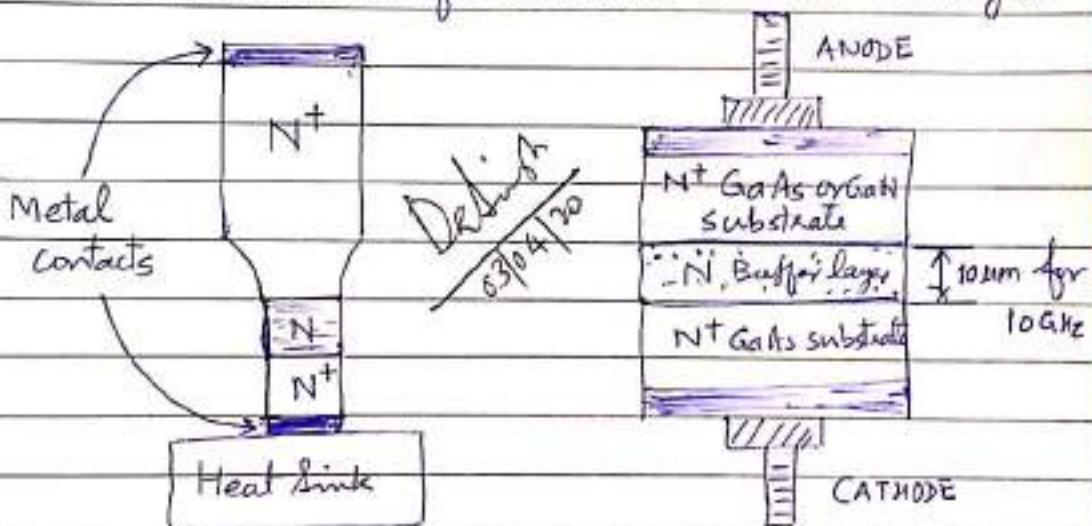
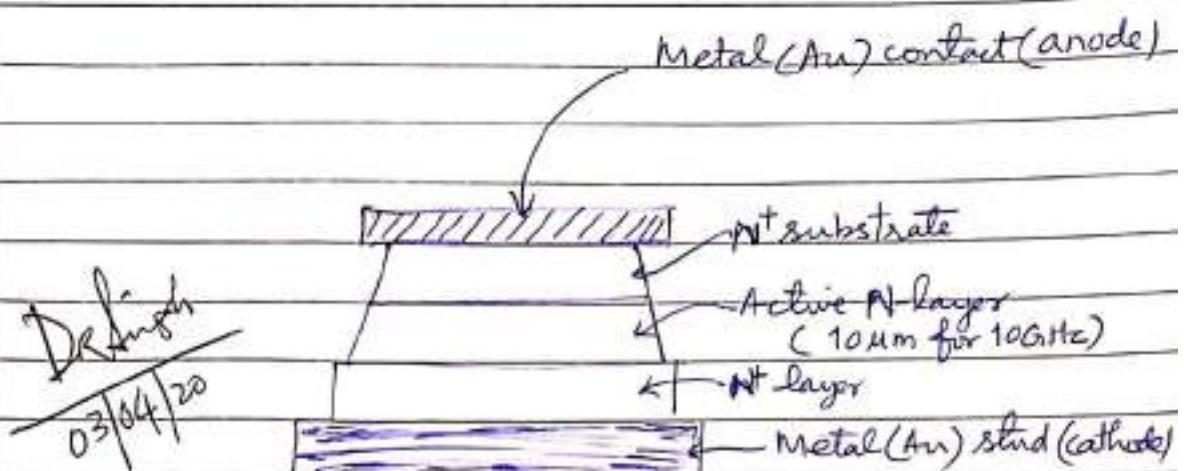

Fig. 2 Construction of Gunn diode
Fig. 5 Construction detail of Gunn diode
- The construction of Gunn diode is shown in Fig. 2
The basic structure of a Gunn diode is shown in Fig. 2 (alternately shown in Fig. 5(2)), which is